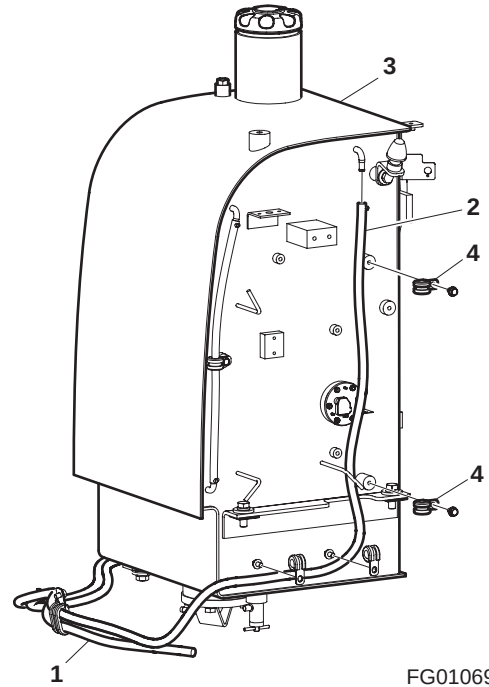

Figure 15
7. Connect as tagged, fuel supply line (1, Figure 15) and fuel return line (2) to fuel tank (3).
8. Install clamp (4, Figure 15) to hold fuel return line (2) to tank (1).